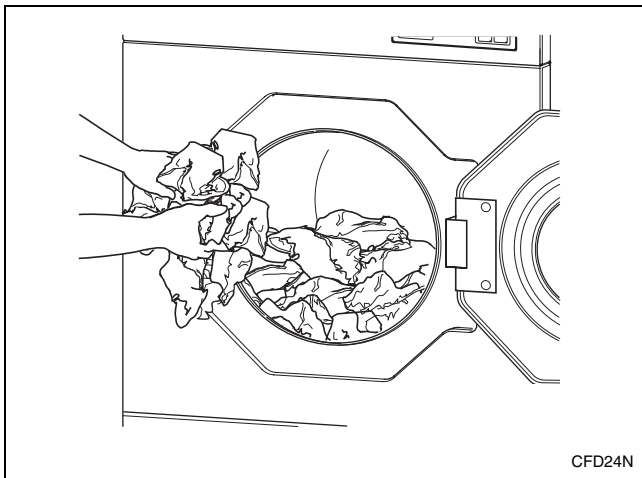

Figure 8
3. Load to capacity whenever possible. **DO NOT OVERLOAD.** Refer to *Figure 8*.